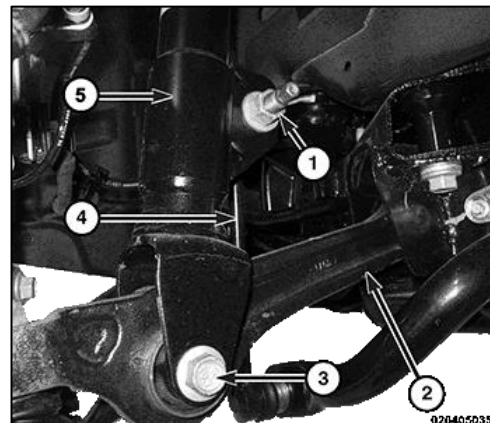

Figure 10
23. Install the strut to lower control arm bolt (3). Do not tighten bolt at this time. <Figure 10>
15. Install the stabilizer link (4) into shock assembly from front. Install the stabilizer link to strut nut (1). Tighten by holding the stabilizer link stud while turning nut, tighten to the proper 111 Ft Lbs (150 Nm). <Figure 10>
20. Tighten the strut to lower control arm bolt (3) to 128 Ft. Lbs (174 Nm) <Figure 10>